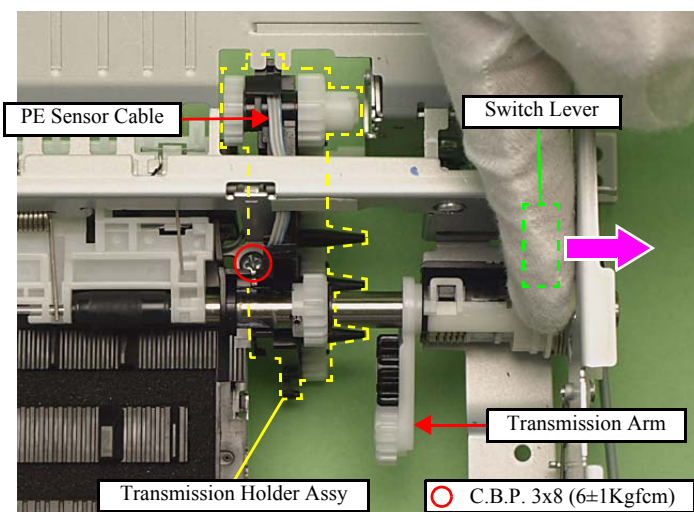

Figure 4-140. Removing the Transmission Holder Assy
1. Push the Switch Lever in the direction of the arrow and disengage the Transmission Arm from the Transmission Holder Assy. (See Fig. 4-86, Fig. 4-140.)
2. Remove the screw (x1) that secures the Transmission Holder Assy. (See Fig. 4-140.)